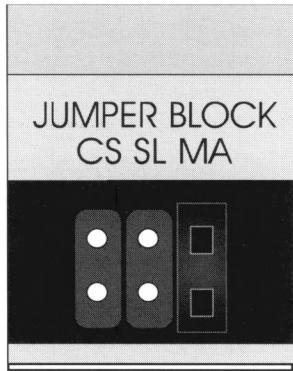

Fig. 2: Configuration jumper set to "Master"
4. Locate the configuration jumper on the back of the CD-ROM and place the jumper over the right (MA) pair of pins. (See Figure 2.) This configures the CD-ROM as the **master** device.